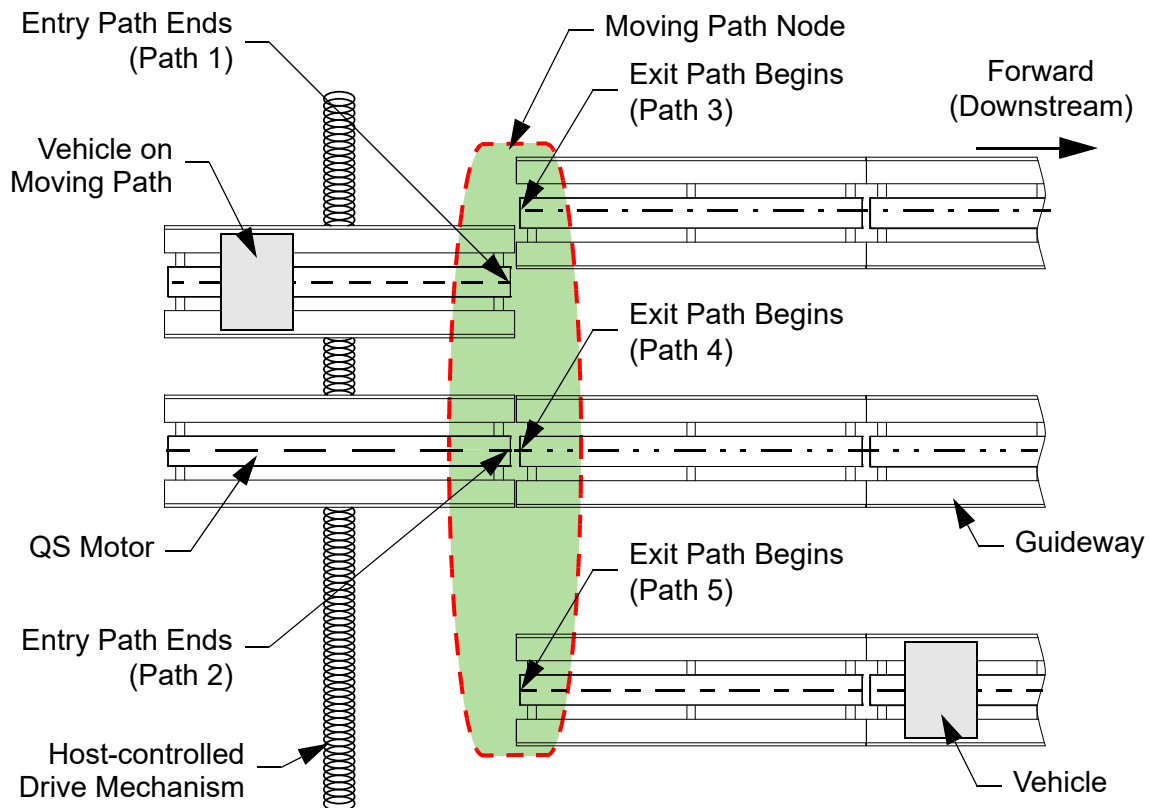
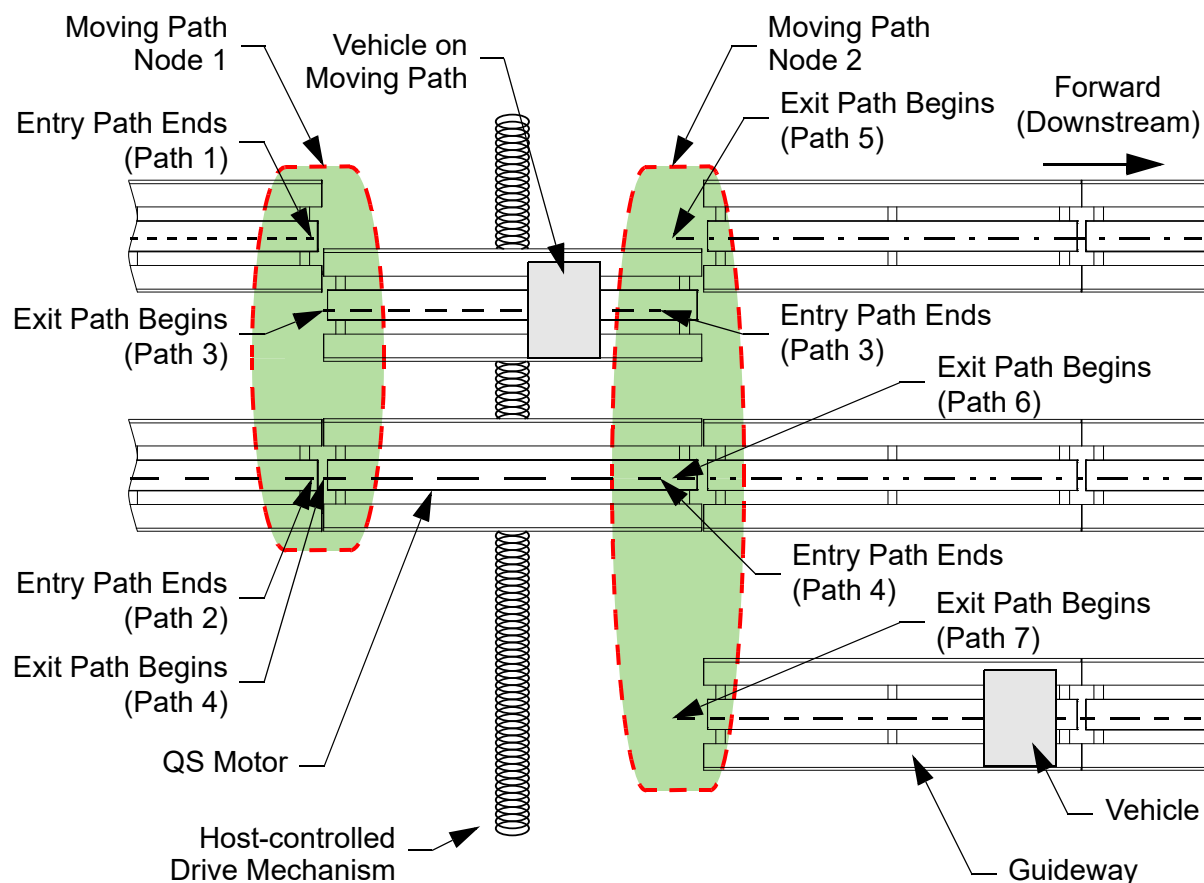

Figure 4-92: Moving Path Node Single Node
Figure 4-93: Moving Path Node Dual Nodes
A Moving Path node is used to connect the ends of multiple paths using a path being moved by a Host-controlled mechanism. This mechanism may be any user-supplied mechanism, including a QuickStick path. The Moving Path node enables vehicles to move between multiple guideways. The paths in the Moving Path node are called entry and exit paths. Either type of path may be moved but the connecting paths must all be of the other type (that is, entry paths move and all exit paths are fixed). Up to 12 paths can be configured as either entry paths or exit paths. See Figure 4-92, where the shaded area represents the Moving Path node.
Figure 4-92 shows a single Moving Path node configuration where vehicles can move between the three exit paths using either of the two entry Moving Paths.
Figure 4-93 shows a dual Moving Path node configuration where vehicles can move from either of the two entry paths in Moving Path Node 1 to any of the exit paths in Moving Path Node 2 using either of the two Moving Paths. In this type of configuration, the Moving Paths are associated with both Moving Path nodes. For Moving Path Node 1, these paths are exit paths. For Moving Path Node 2, these paths are entry paths.
In Figure 4-93 if the vehicle is moving from Moving Path Node 1 Entry Path 1 to Moving Path Node 2 Exit Path 5 the Moving Path does not need to move.
3. Select the appropriate route type for the **Entry Paths Route Type** and **Exit Paths Route Type** from the drop-down list. Select **Specific-route** if a specific Moving Path in the node is used to satisfy the route (specified by the HLC), see Figure 4-92 or **Equivalent-route** if any Moving Path in the node can satisfy the route (specified by the host controller), see Figure 4-93.
If the configuration of this node is the same as the configuration shown in Figure 4-92, configure the node, see Figure 4-96.
If the configuration of this node is the same as the configuration shown in Figure 4-93, configure the nodes, see Figure 4-97.